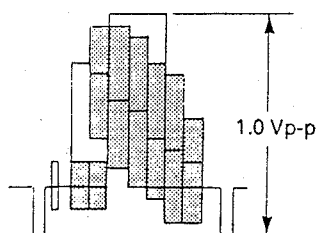

Figure 2-6.
3. Adjust R203 so that the signal amplitude is 1.0 Vp-p as shown in Figure 2-6.